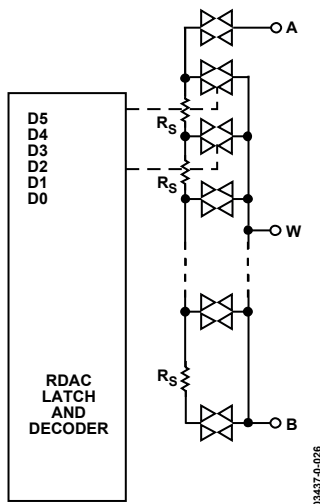

Figure 26. AD5171 Equivalent RDAC Circuit
The nominal resistance (R_{AB}) of the RDAC has 64 contact points accessed by the wiper terminal, plus the B terminal contact if R_{WB} is considered. The 6-bit data in the RDAC latch is decoded to select one of the 64 settings. Assuming that a 10 k Ω part is used, the wiper's first connection starts at the B terminal for data 0x00. Such connection yields a minimum of 60 Ω resistance between terminals W and B because of the 60 Ω wiper contact resistance. The second connection is the first tap point, which corresponds to 219 Ω ($R_{WB} = (1) \times R_{AB}/63 + R_W$) for data 0x01, and so on. Each LSB data value increase moves the wiper up the resistor ladder until the last tap point is reached at 10060 Ω ($((63) \times R_{AB}/63 + R_W)$). Figure 26 shows a simplified diagram of the equivalent RDAC circuit. The general equation determining R_{WB} is